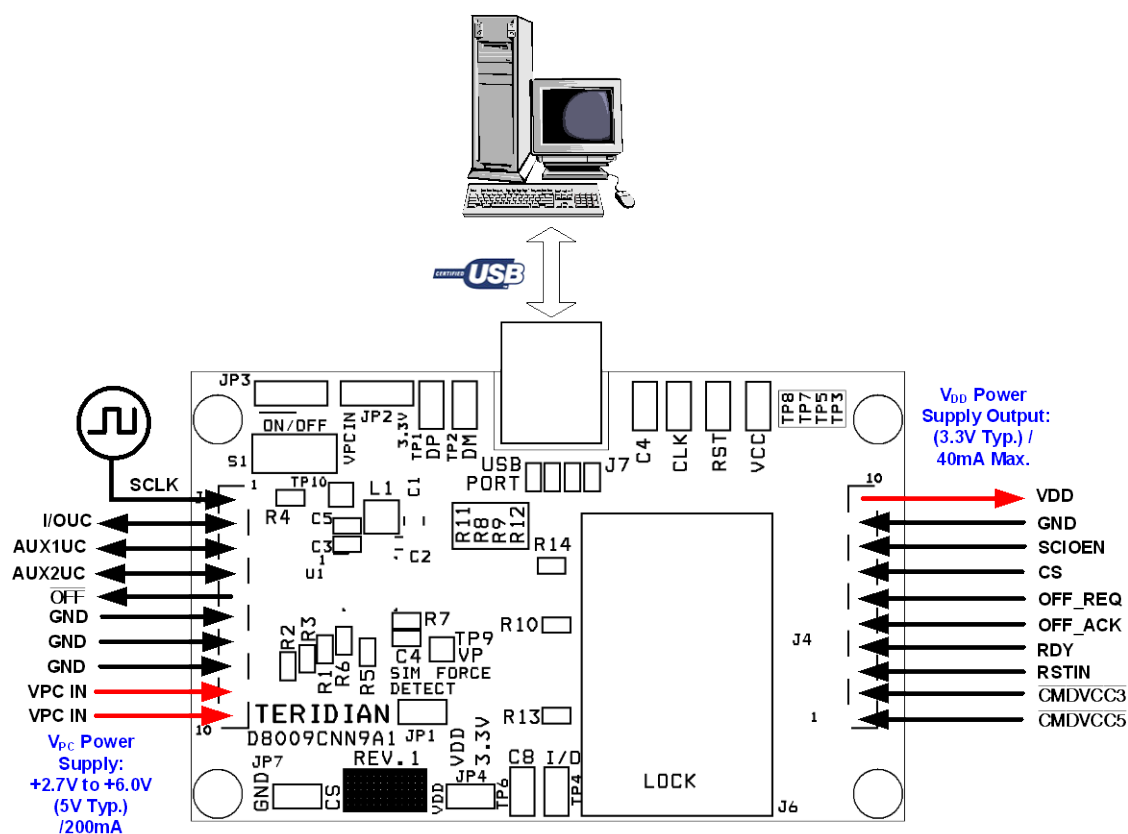

Figure 2: 73S8009CN Demo Board External Connectors
This section describes the 73S8009CN Demo Board external connectors. All the digital signals and power supply connections are made through 10-pin header connectors labeled J2 and J4 in Figure 2.
- Control signals to the device can be connected through J2 and J4. See Figure 2 and Figure 4.